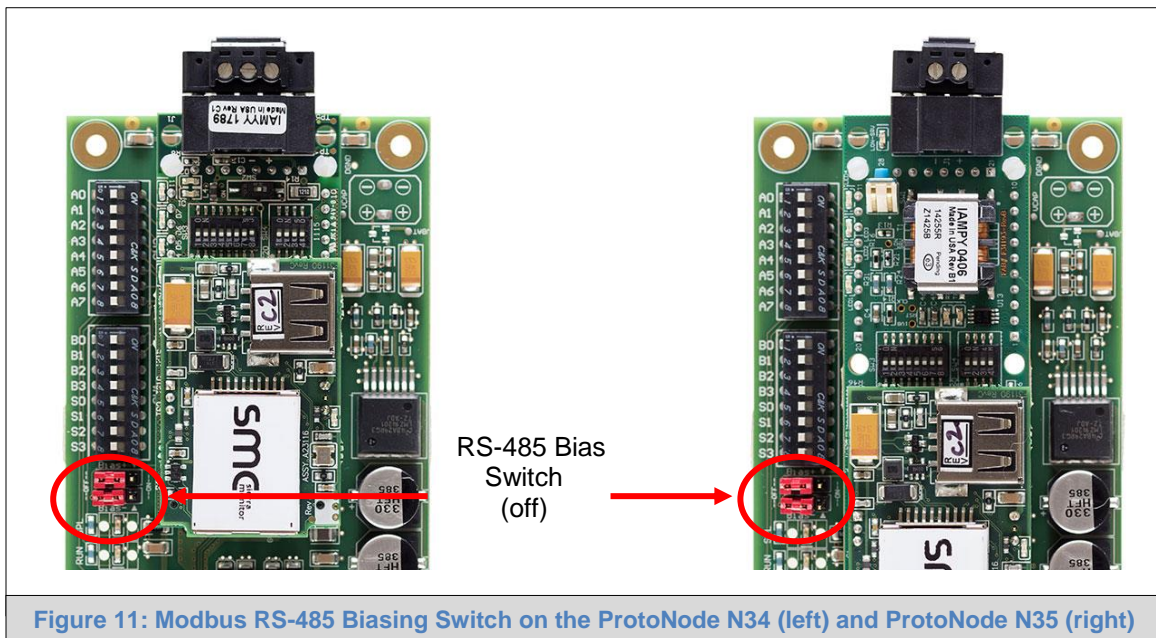

Figure 11: Modbus RS-485 Biasing Switch on the ProtoNode N34 (left) and ProtoNode N35 (right)
- The OFF position is when the 2 RED biasing jumpers straddle the 4 pins closest to the outside of the board of the ProtoNode. (**Figure 11**)